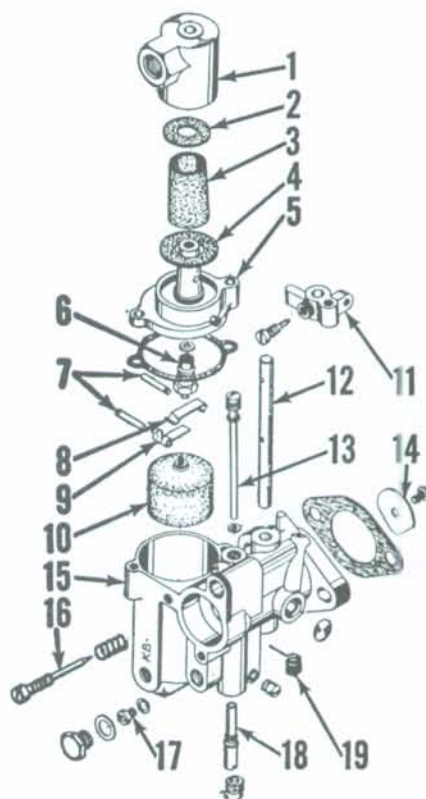

Fig. M7-2—Exploded view of Tillotson carburetor of the general type used on most models.
Tillotson Carburetors: Fig. M7-2 shows an exploded view of carburetor typical of that used on all models. Minor difference will be apparent upon examination. AJ-49A carburetors used on some early models do not use the fuel filter (1 through 4). Some early carburetors employ an adjustable high speed needle instead of the fixed jet (17).
Standard main jet size (diameter) for carburetors with fixed type main jet (17—Fig. M7-2) are as follows: